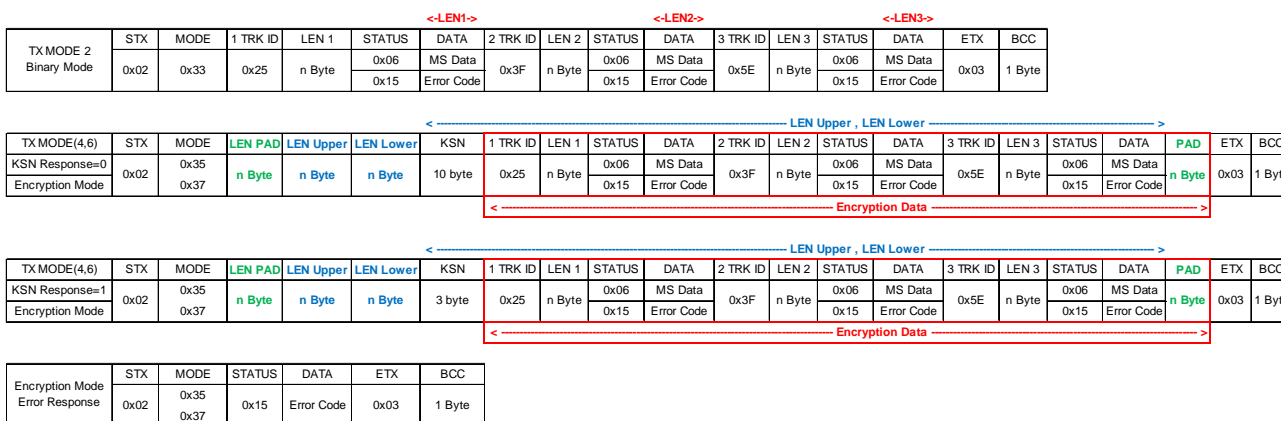

Figure 7: TX Data frame format
- The data frame formats are shown in Fig. 7.